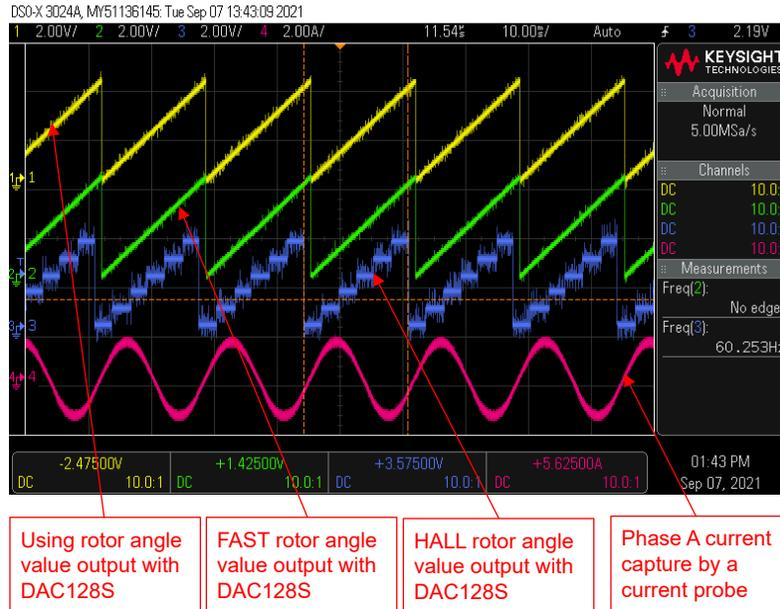

**Figure 3-50. Build Level 4: Rotor Angle with FAST and Encoder, Phase Current Waveforms at Forward Rotation**
- The estimated rotor angles from FAST and Encoder are shown in Figure 3-50. The motor is running with FAST at forward rotation by setting motorVars\_M1.speedRef\_Hz to a positive value.
Use DAC128S085EVM with an oscilloscope to monitor rotor angle of the motor from the FAST estimator and encoder, and a phase current of the motor as shown in Figure 3-50 when the motor is running at forward rotation by setting motorVars\_M1.speedRef\_Hz to a positive reference value.